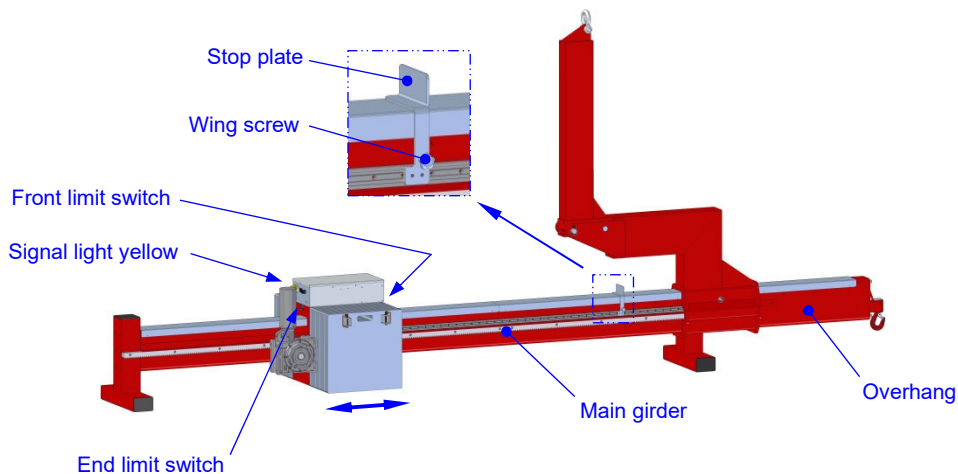

Fig. 11: Stop plate and yellow signal light
⇒ Position the stop plate (s. fig. 11) as follows:
- ⇒ Release the wing screw of the stop plate (s. fig. 11) and push the stop plate onto the travelling cage until the front limit switch is triggered. The yellow signal light turns off. Firmly retighten the wing screw.